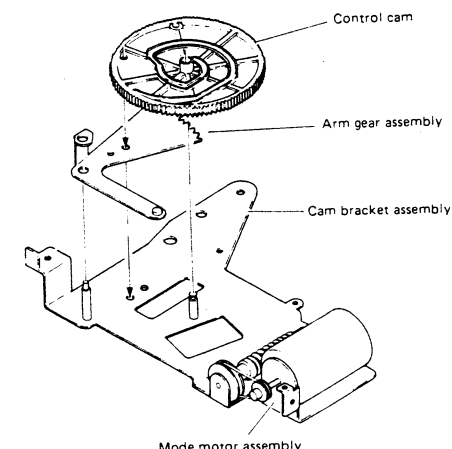

Fig. 2-10 Control cam
2. Install the control cam on the cam bracket assembly so that the hole of the control cam overlaps the hole which is indicated in the step 1), as shown in Fig. 2-10. Do not turn the control cam from this position for the next step.